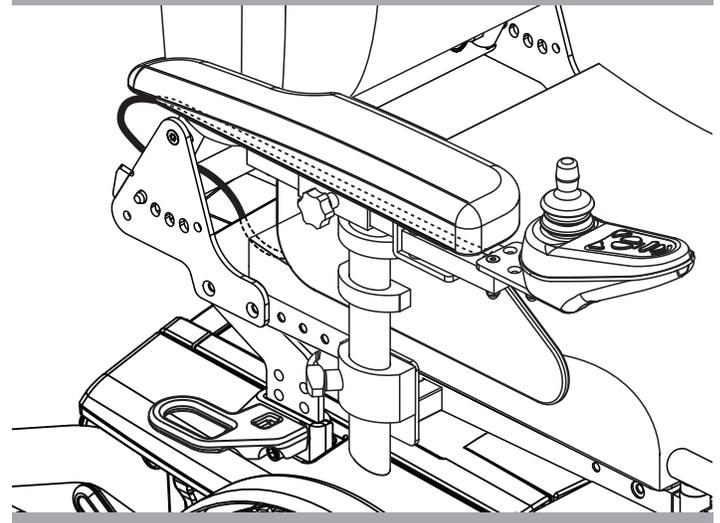

Figure 15. Cable Routing
7. Route the controller harness to the front of the power base and reconnect the controller. **See figure 15.**